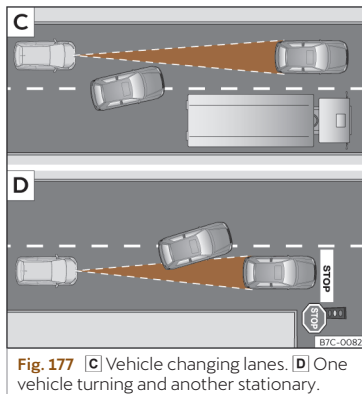

Fig. 177 [C] Vehicle changing lanes. [D] One vehicle turning and another stationary.
- Vehicles that move into your lane, a short distance from your vehicle » **Fig. 177** [C].
The ACC may not react to stationary vehicles. If, for example, a vehicle detected by the ACC turns or moves over and there is a stationary vehicle in front of it, the ACC will not react to the second vehicle»» **Fig. 177** [D].